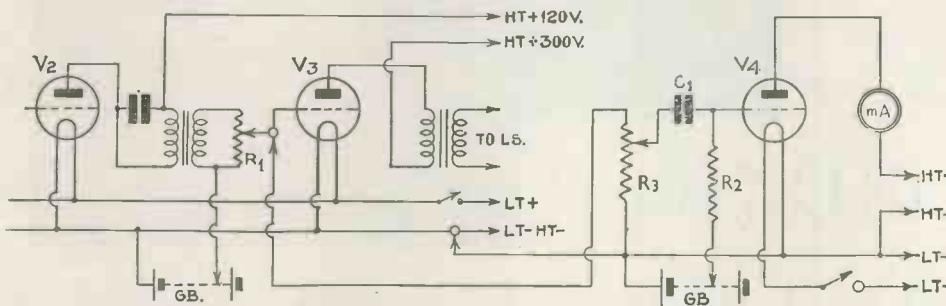

Fig. 2.—A refinement is the use of a volume indicator
A refinement useful to include in the circuit for recording purposes is as shown in Fig. 2. The object of this is to serve as a volume indicator whilst making a record, for listening by loud-speaker or telephones does
The effect of varying the peak-value indicating meter (Fig. 2) can then be observed, and whether distortion is evident when this is at its maximum.
As regards (2), the procedure is to fade out the programme to a minimum volume by means of  $R_1$  (Fig. 2) and put a recording blank on the
If there is no obvious distortion, it is satisfactory and the maximum peak value as shown by the meter (Fig. 2) should be noted for future use. If distortion appears, volume should be reduced by the aid of the volume control  $R_1$ , when the deflection of the needle will not be so great.